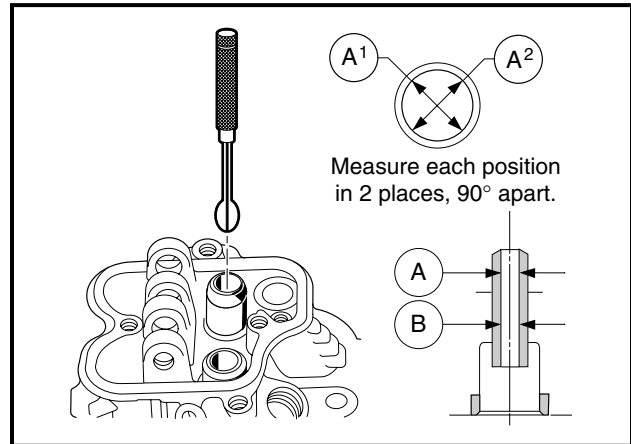

Figure 3-14 Measure I.D. of Valve Guides
1. Measure the inside diameter of each guide with a telescoping gauge (**Figure 3-14, Page 3-10**).